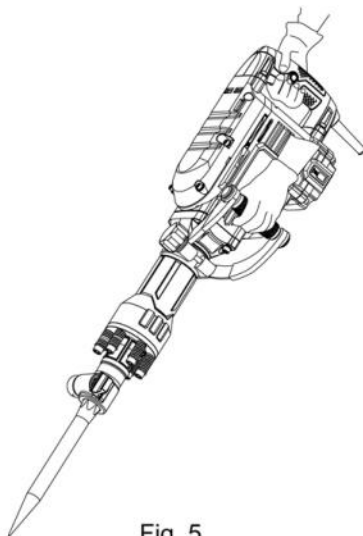

Fig. 5
- > Always hold the product on its handles. Keep the handles dry to ensure safe support (Fig. 5).